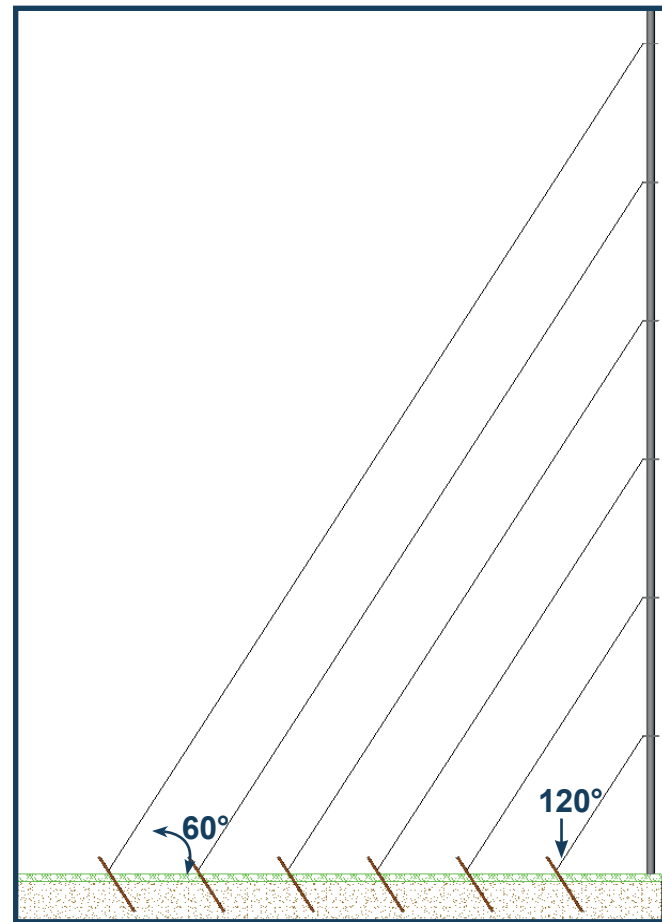

Fig 9 Example Temporary Installation of 6 section mast illustrating 60 degree angle guy wire from base.
- Guy anchors are not included, and at a minimum we suggest 4 x star pickets are installed, per collar ring, spaced evenly at 90 degrees and driven into the ground to a depth of at least 1 metre at 120 degrees (Fig 9). For long-term applications please reach out to our friendly sales team to discuss suggested solutions.
For permanent installations, we have anchored this example mast to four concrete blocks for ultimate stability and safety. Refer to the **Temporary Installation** section **Table 2 and Fig 9** for details on using star pickets as an alternative.
For temporary installations, we recommend using star pickets to anchor the guy wires or ropes. At a minimum, 4 star pickets should be installed for each collar ring, spaced evenly at 90 degrees and driven into the ground to a depth of at least 1 metre at 120 degrees (Fig 9).